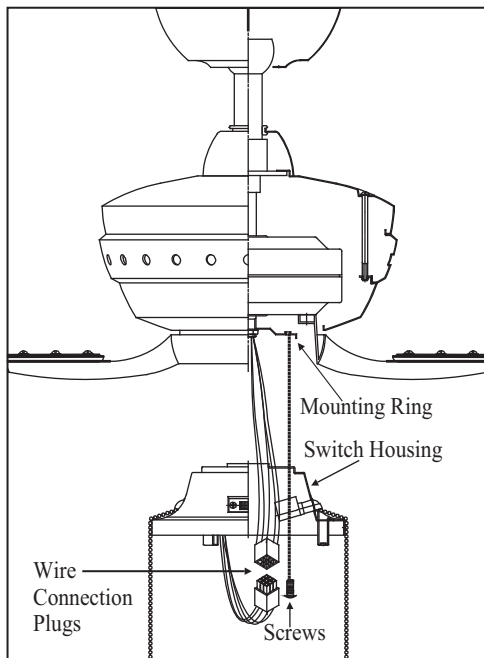

Figure 16
3. Carefully push all wires back into the switch housing. Place the key holes on the switch housing over the 2 screws previously loosened from the mounting ring, turn switch housing until it locks in place at the narrow section of the key holes. Secure by tightening the 2 screws previously loosened and the one previously removed. (Fig. 16)